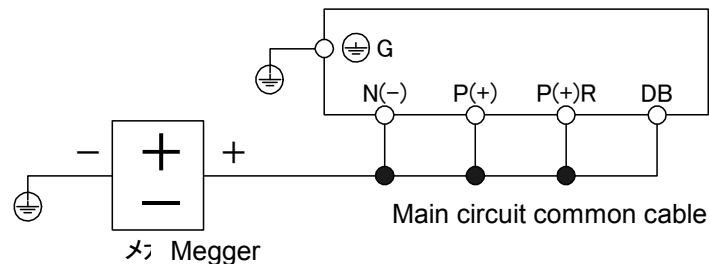

Fig. 5-3-1. Megger Test
- 2) Connect the main circuit terminals, using a common cable, as shown in Fig. 5-3-1.